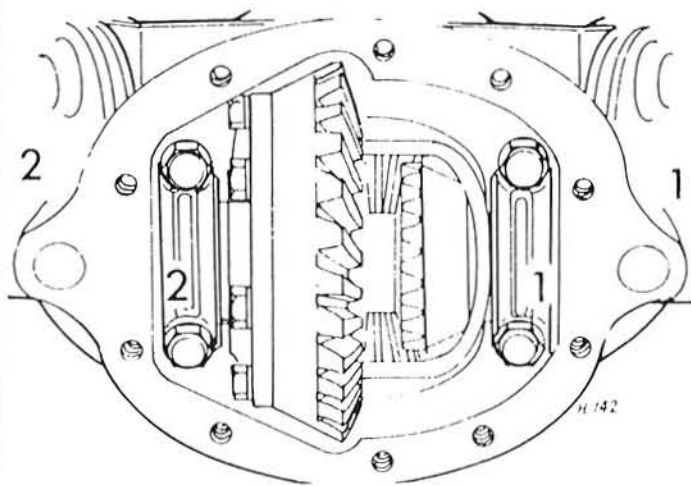

Fig. 8.11 Differential casing and bearing cap identification marks (Sec 8)
- 4 With a scribe, mark the relative positions of the two bearing caps so that they can be refitted in their original positions. Lift away the two end caps: there may already be mating numbers shown in Fig. 8.11.